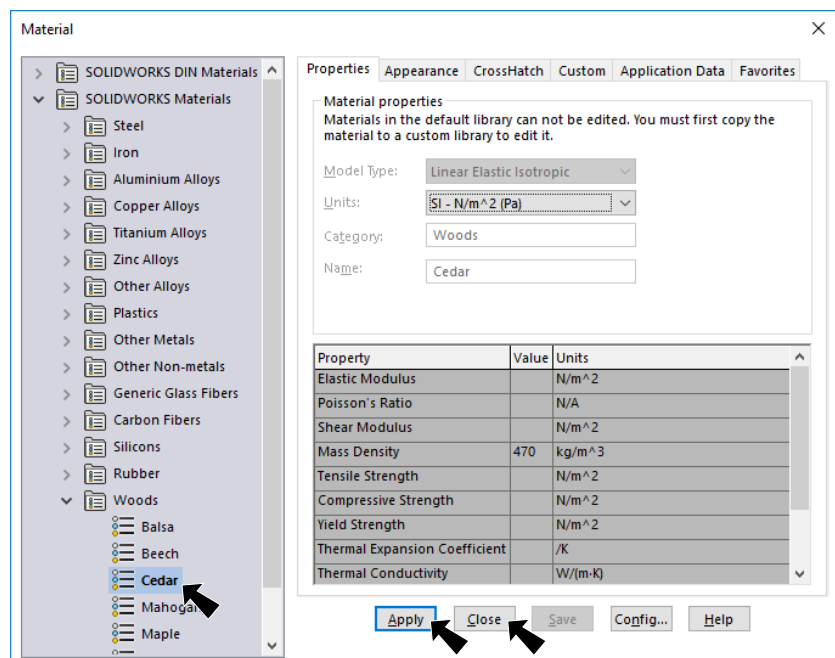

Fig. 35
Step 3. Expand **Woods** (click ) in the material tree and select **Cedar**, click **Apply** and **Close**, Fig. 35.